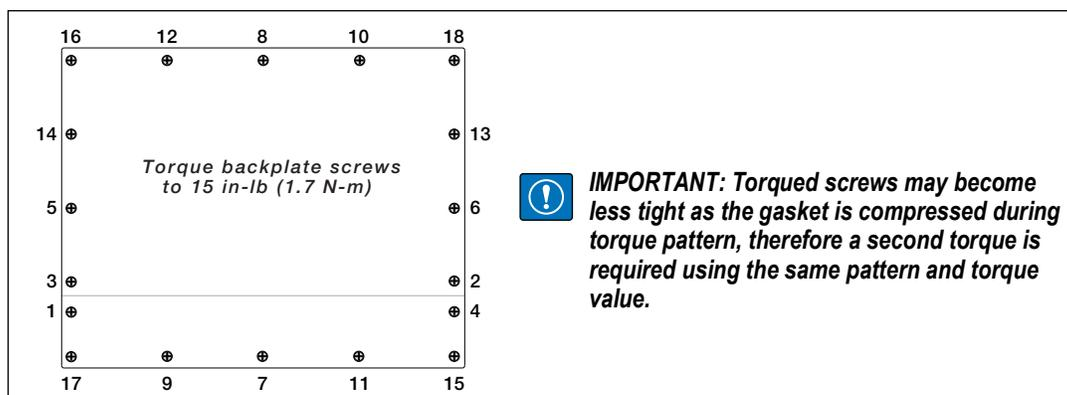

Figure 3-1. 920i Enclosure Backplate
3. Torque screws to 15 in-lb (1.7 N-m), using pattern shown in Figure 3-1, to prevent distorting the back plate gasket.
4. Re-install the backplate, see Figure 3-1 on page 13.